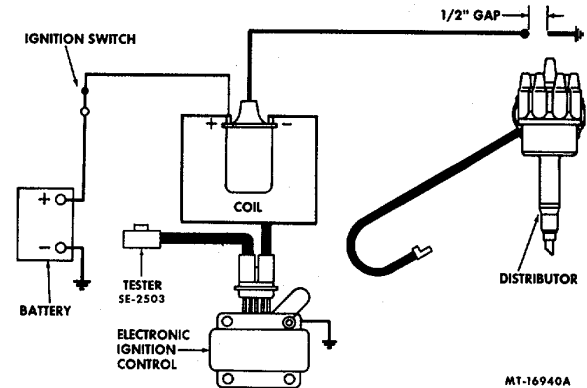

Fig. 8. Ignition Control and Coil Test - Volt-meter Connected to Coil Negative (-) Terminal
8. Tester (SE-2503) should be connected to electronic ignition control. Connect voltmeter between coil negative (-) terminal and ground (see Fig. 8). With ignition switch "ON," one of the following voltmeter readings will be obtained:
- (A) 5 to 8 volts (normal).
- (B) Above 8 volts (problem area).
- (C) Below 5 volts (problem area).